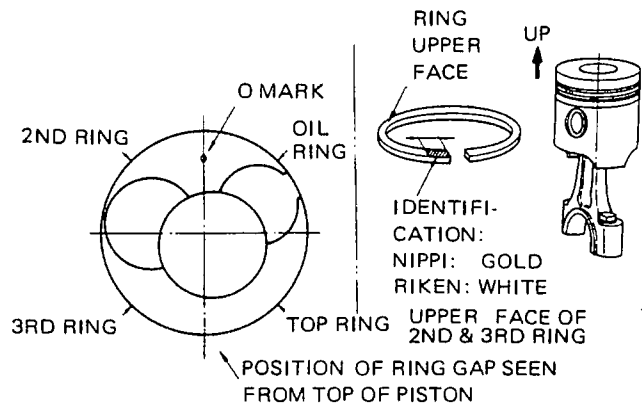

Fig. 3-4-27 Marks and ring joint position
- 3) As shown in Fig. 3-4-27, mount piston so that the mark "O" on the piston head is on the tappet chamber side.